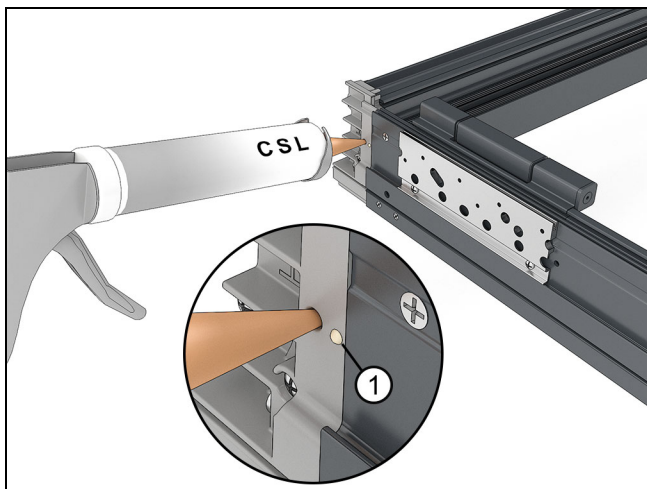

Figure 23 CSL 343 sealant
11. At the sill inject the provided sealant into the larger hole in the sill corner key until sealant comes out of the adjacent hole. See Figure 23.